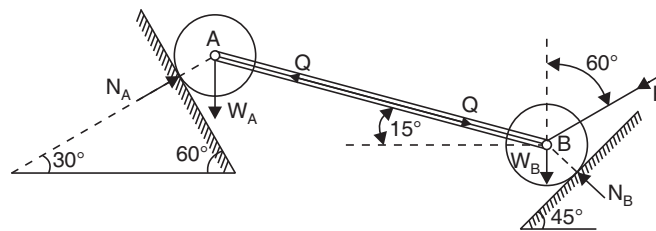

Fig. 2.55
**Example 2.33.** Fig. 2.55 shows the cylinders, A of weight 100 N and B of weight 50 N resting on smooth inclined planes. They are connected by a bar of negligible weight hinged to each cylinder at their geometric centres by smooth pins. Find the forces P, as shown that holds the system in the given position.